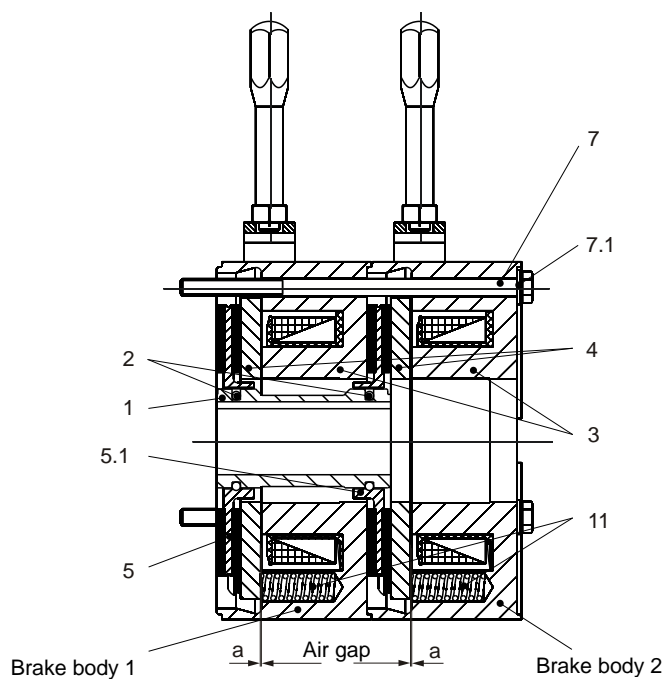

Fig. 2
- Insert the hexagon head screws (7) into the bores in brake body 2 and then join with brake body 1 (see Fig. 2) and screw onto the machine wall or flange plate.